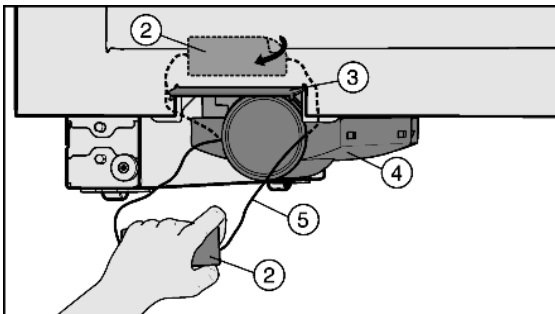

Fig. 76
- ▶ Remove any labels Fig. 76 (2) from the appliance.
- ▶ Open the filter change flap Fig. 76 (3).
- ▶ Carefully pull out drawer Fig. 76 (4) by the string Fig. 76 (5).
- ▶ Cut off the string Fig. 76 (5) together with the label Fig. 76 (2) and pull out. It is no longer required and can be disposed of.
- ▶ Close the filter change flap Fig. 76 (3).